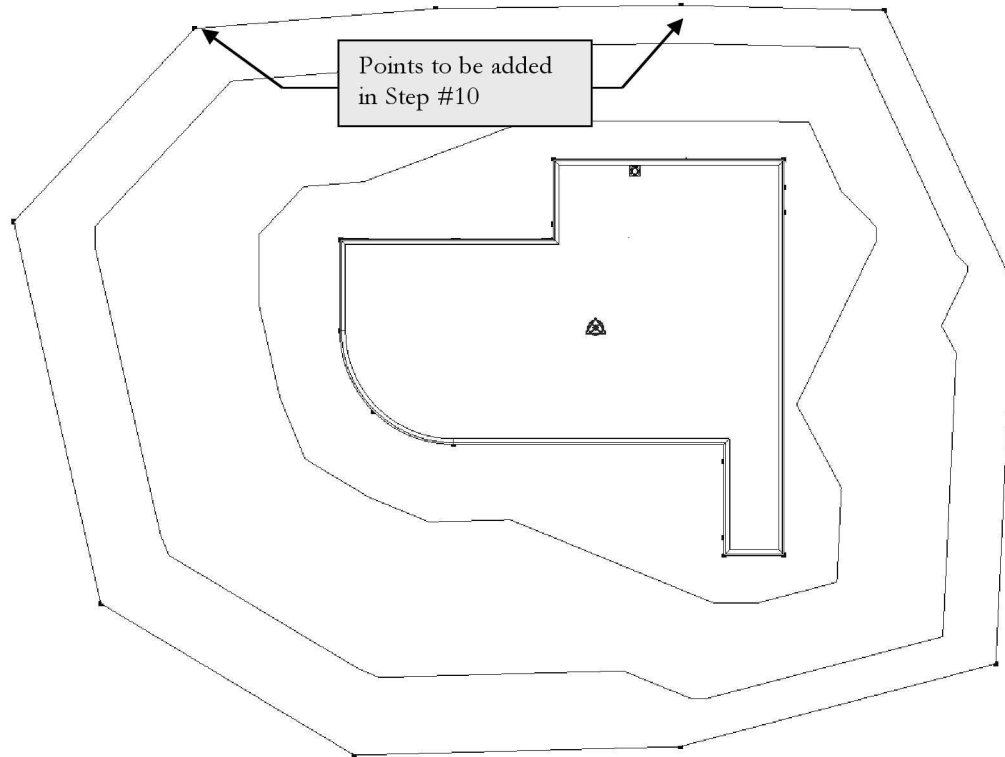

FIGURE 15-1.6 Site Plan view – 10 points to be selected (elev – 2'-6")
10. Set the **Elevation** to **-2'-6"** and point to ten points shown in Figure 15-1.6 which define the extents of the toposurface.